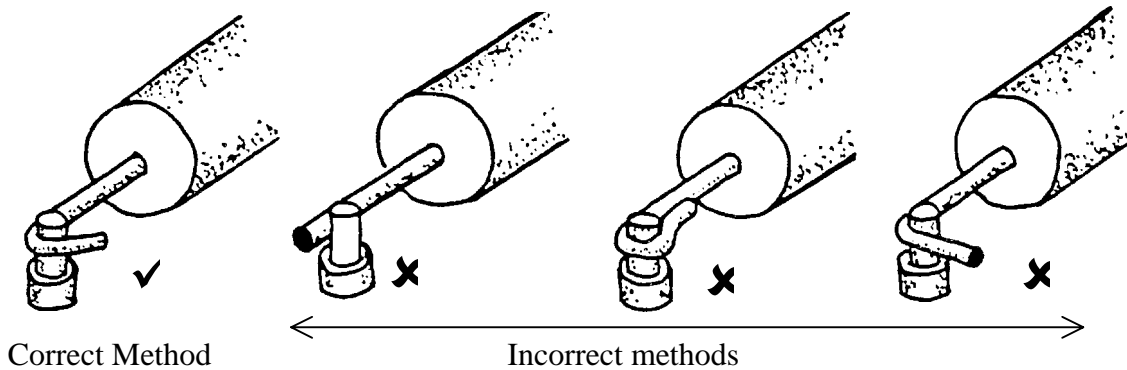

Figure 1
2. Bend lead around pin to an angle of around  $135^\circ$  (as shown in the first diagram in Figure 1. Any more will make de-soldering and removal of the component difficult and any less will make the joint over-reliant on the mechanical bond the solder provides.